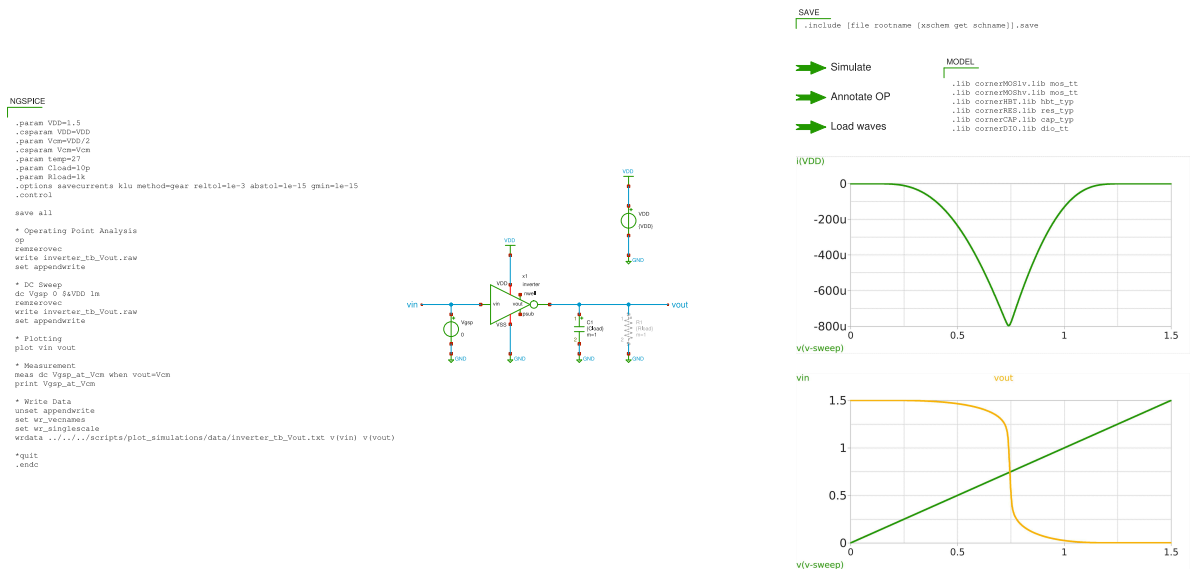

Figure 10: Xschem testbench inverter_tb_dc_vout (dc input sweep on inverter).
- inverter_tb_dc_vout.sch, dc input sweep (see Figure 10),